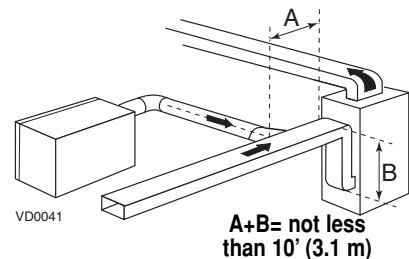

figure 11
- Connect this opening to the fresh air distribution port of the HRV/ERV (see figure 11).